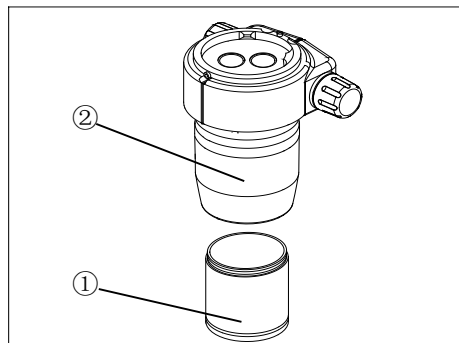
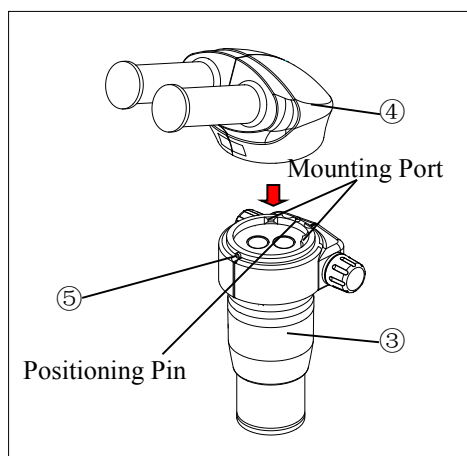

Fig.1
Fig.2
2.2.1. Mounting binocular viewing head (Fig.1, Fig.2)
1. Rotate the objective ① into the objective mount thread on the lower end of the zoom body. ②, as ③ in fig.2.
2. Aligning the positioning pin of the zoom body ③ to the positioning groove on the binocular viewing head ④, insert the dovetail mount at the bottom of the viewing head into the mounting port on the zoom body ③, and tighten the viewing head clamping screw ⑤ with provided hexagonal driver.